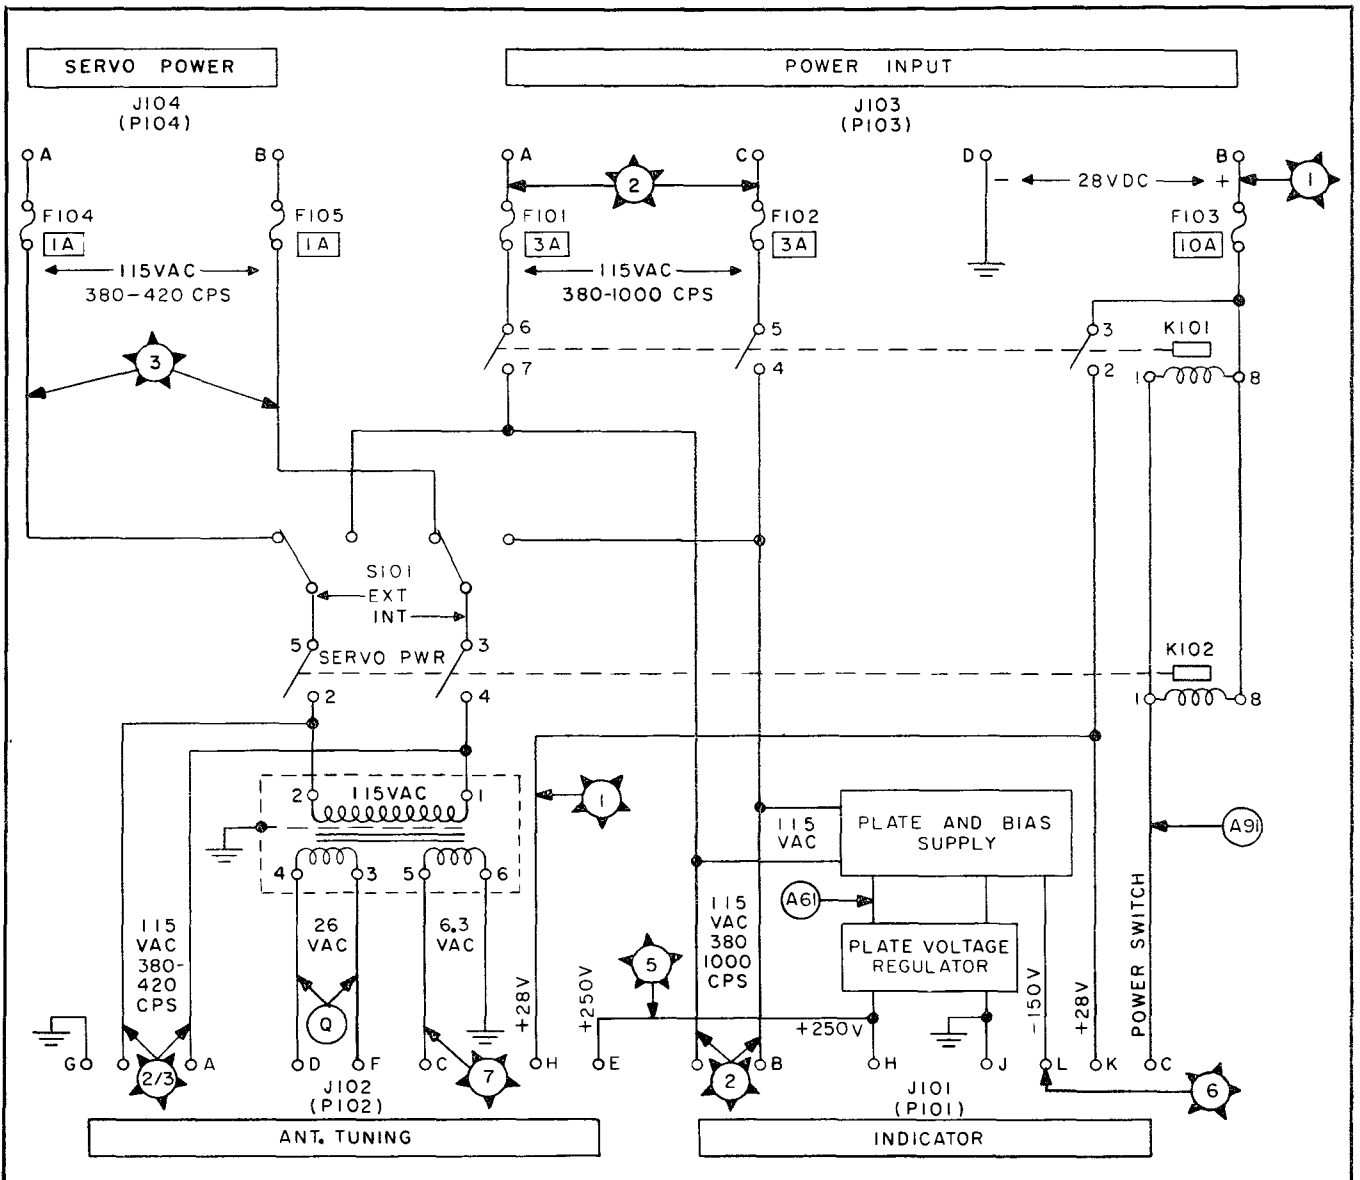

Figure 4-17. Power Supply Partial Schematic, Power Circuitry
- c. Power Circuitry (Figure 4-17.)
4-90. POWER CIRCUITRY. (Figure 4-17.)
4-92. As shown in figure 4-17, there are three separate electrical power inputs: 115 vac at 380 to 1000 cps, supplied at J104; 28 vdc also supplied at J104; and 115